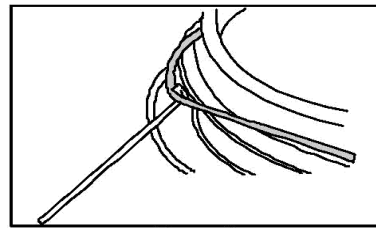

Figure 8
2. Place a pry bar or screwdriver under the o-ring and pull it out from the groove in the rim. Cut the o-ring with a knife to ensure that a new o-ring is used. (See Fig. 8.)